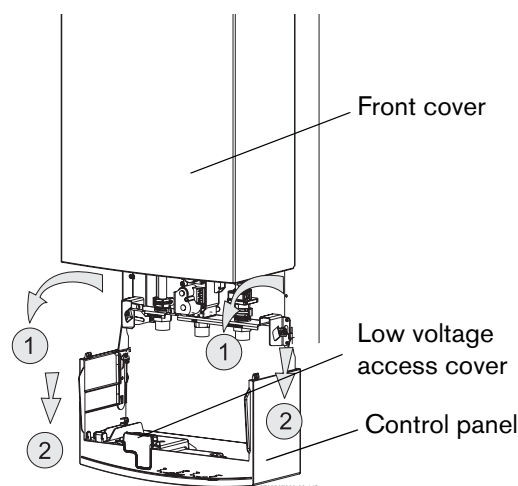

Fig. 3 Service position to access water and electric connections
- Pull control panel outwards and then pull it downwards (Fig. 3).